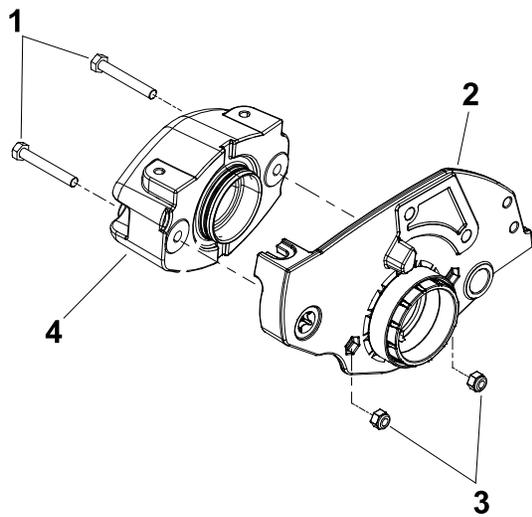

Figure 16
15. Use the cap screws and hex nuts to secure the weight to the right side plate (Figure 16).